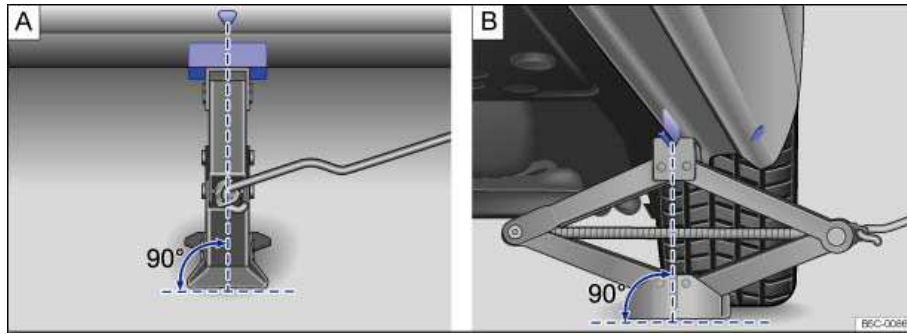

Fig. 167 Jack in position at the left rear lift point.
8. Position the jack so that its base is directly underneath the lift point ⇒ fig. 167, making sure that the entire base of the jack rests securely on the ground.
9. Align the jack and wind up the jack claw at the same time, until the claw cradles the vertical rib underneath the vehicle ⇒ fig. 167 (arrow).
- Position the jack only at the described vehicle lift points. Before you raise your vehicle, always make sure the jack claw properly grips the vertical rib under the sill so that the jack does not slip off when you are raising the vehicle ⇒ fig. 167.